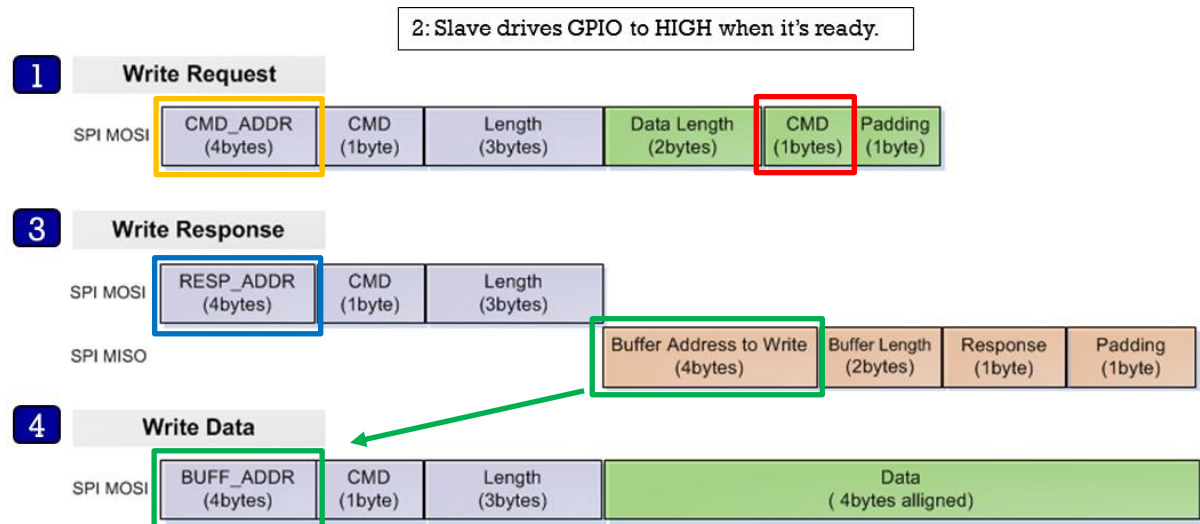

Figure 3: Structure for Write Operation
| Figure 3: Structure for Write Operation | 6 |
1. The Host sends a WRITE_REQ command (0x80, red rectangle in Figure 3) to the General Command address (0x50080254).(yellow rectangle in Figure 3).
3. The Host reads the Write Response message by Response Command address (0x50080258, blue rectangle in Figure 3) and parse it using struct _st_host_response (see Table 4).
4. The Host sends data to address (BUFF_ADDR) which is received from the Slave in the Write Response message.(Green rectangle in Figure 3).